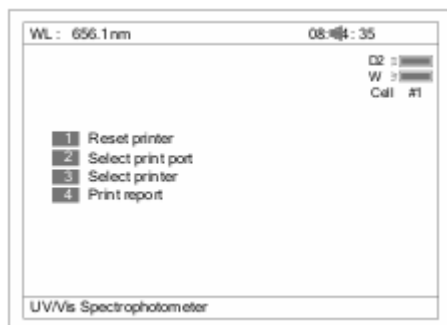
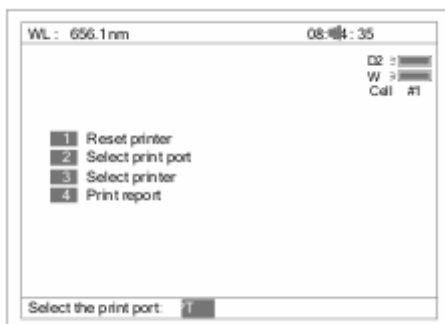
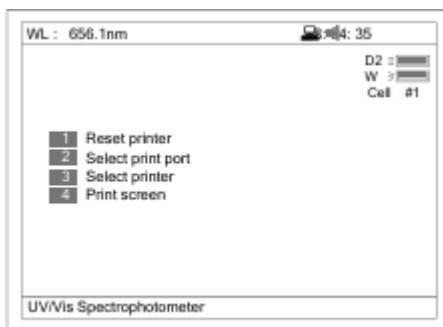

Fig.75
Fig.76
Fig.78
Press **[2]** to set the printer (Fig 75). **[ESC/STOP]** to exit.
1. Press **【1】** in Fig 75 to Reset the Printer.
2. Press **【2】** in Fig 75 to select the print port (LPT or Comm., Fig 76).
3. Press **【3】** in Fig 75 to select printer (HP PCL (1 colour cartridge), PCL (black mode), Epson ESC/P or Epson/P2 or above, Fig77).
4. Press **【4】** in Fig 75 to select print mode. If you select “Print screen” mode, a little icon will be displayed on the top line of the screen (Fig 78), if you select “Print report” mode, the little icon will disappear.